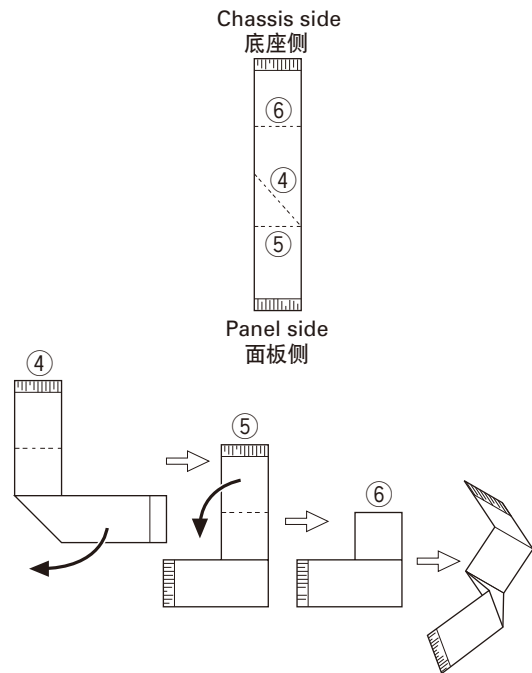

Fig. 3-2 / 图 3-2
2. Remove the flat cable from the connector (CN901) of the display unit of the panel. (③)
3. Fold the black line of the flat cable (in three parts) as shown in Figure 3-2. (④, ⑤, ⑥)
2. 从面板显示单元的连接器 (CN901) 取下带状电缆。(③)
3. 如图 3-2 所示折叠带状电缆的黑线。(④, ⑤, ⑥)